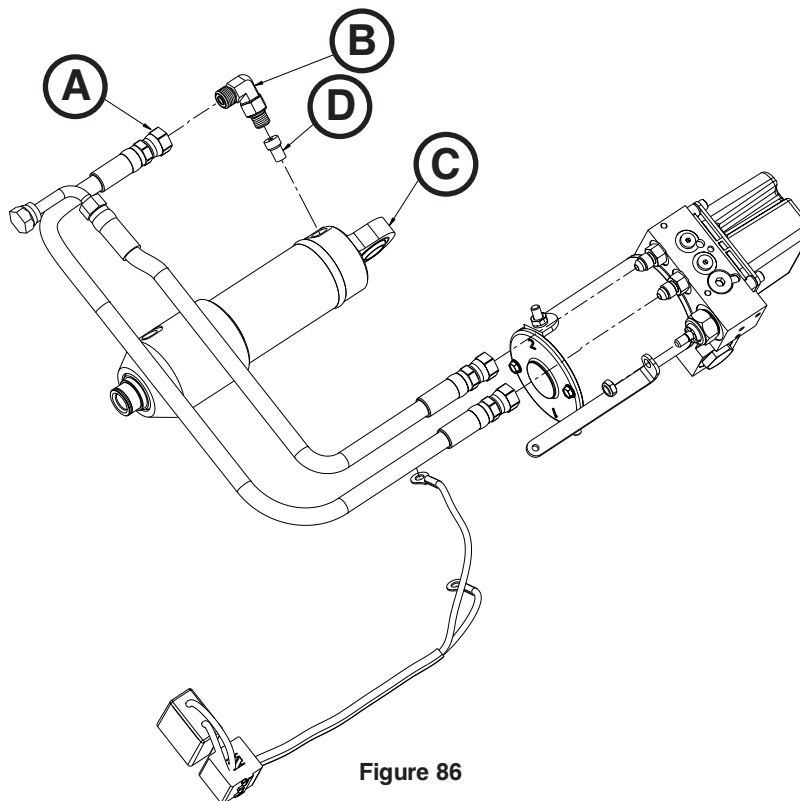

Figure 86
3. Using an 11/16" combination wrench, disconnect the hydraulic hose (A) closest to the mounting bracket at the head end of the trolley (Figure 86).
4. Using a 5/8" combination wrench loosen (do not remove) the jam nut on the cylinder hose fitting (B) and unthread the fitting from the hydraulic cylinder (C) (Figure 86). Save all parts for reinstallation.
5. Using a 1/8" hex wrench remove the velocity fuse (D) from the hydraulic cylinder (C) (Figure 86). Discard the fuse.